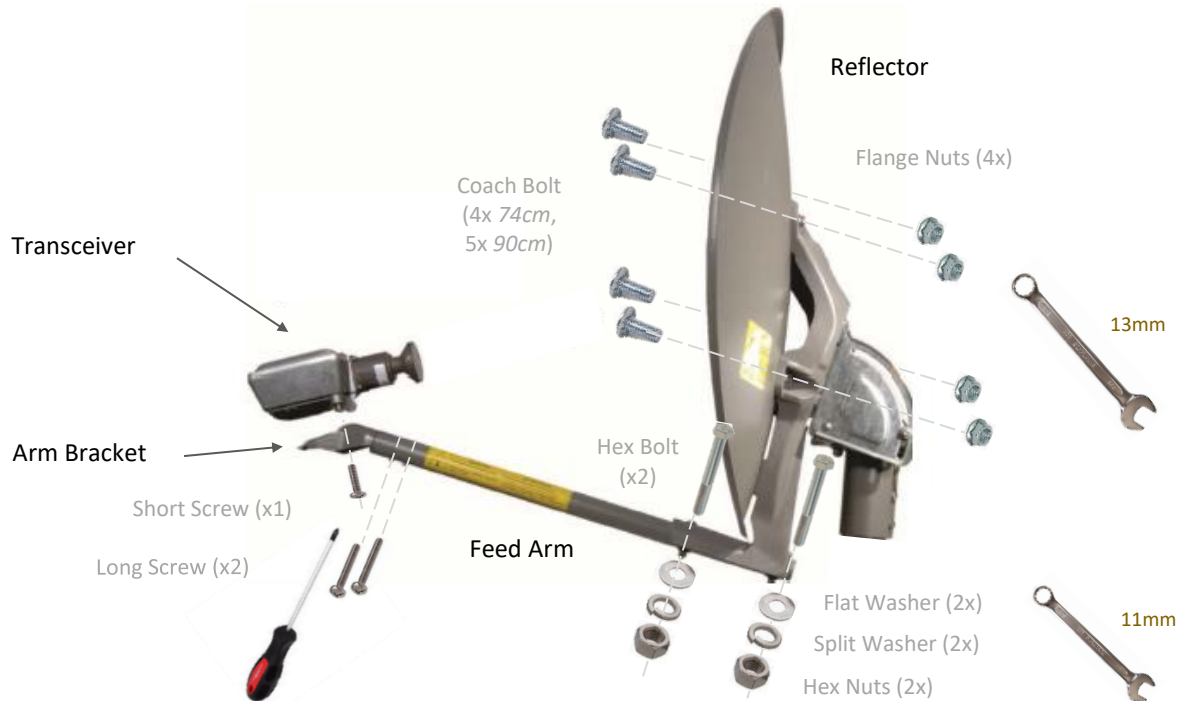

Fig.3 - SYSTEM ASSEMBLY
Step 10: Assemble the Antenna: Reflector, Canister, Arm, Bracket, Transceiver (fig. 3)